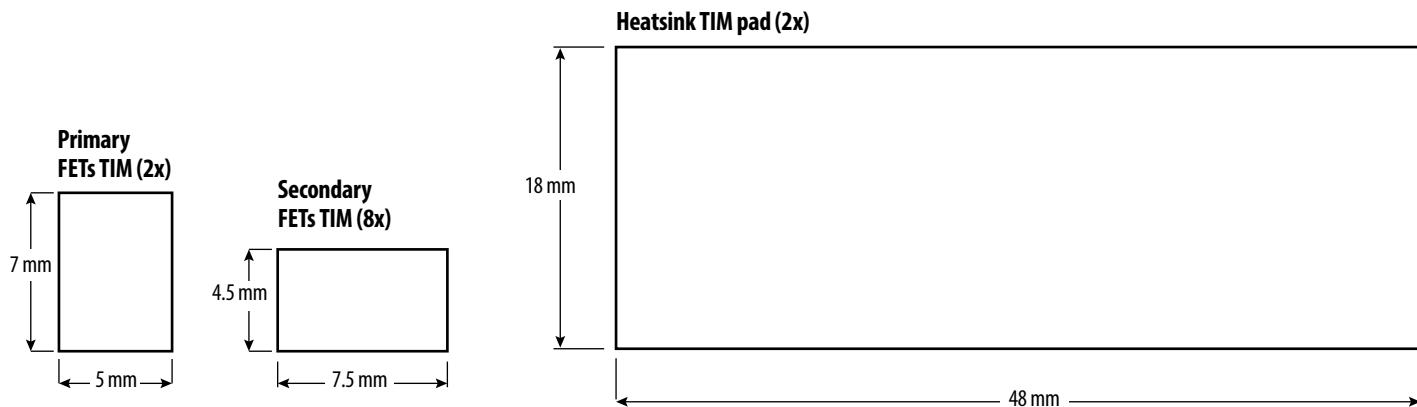

Figure 12: Drawings and dimensions of TIM pad cutouts for primary FETs, secondary FETs and heatsinks.
3. Place **TIM pads** (TG-A1780) on the primary and secondary FETs (Figure 12)
5. Place **TIM pad** (TG-A6200) on the backside of the heatsink (flat side) and align it to PCB holes (Figure 12)
9. Place **TIM pad** (TG-A1780) cutouts to cover primary and secondary FETs (Figure 12)
11. Place TIM (TG-A6200) on backside of heatsink and align it to screw holes (Figure 12)